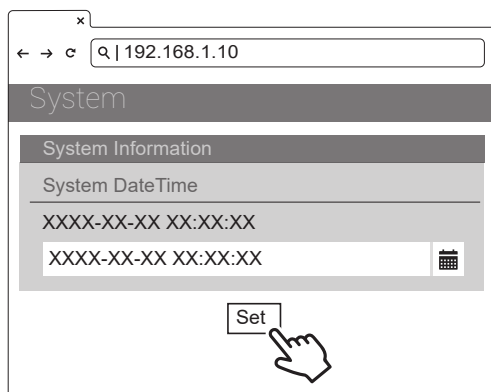

Figure 38. Set Date/Time
5) Select SET and wait until the seeing completion window appears. See Figure 38.